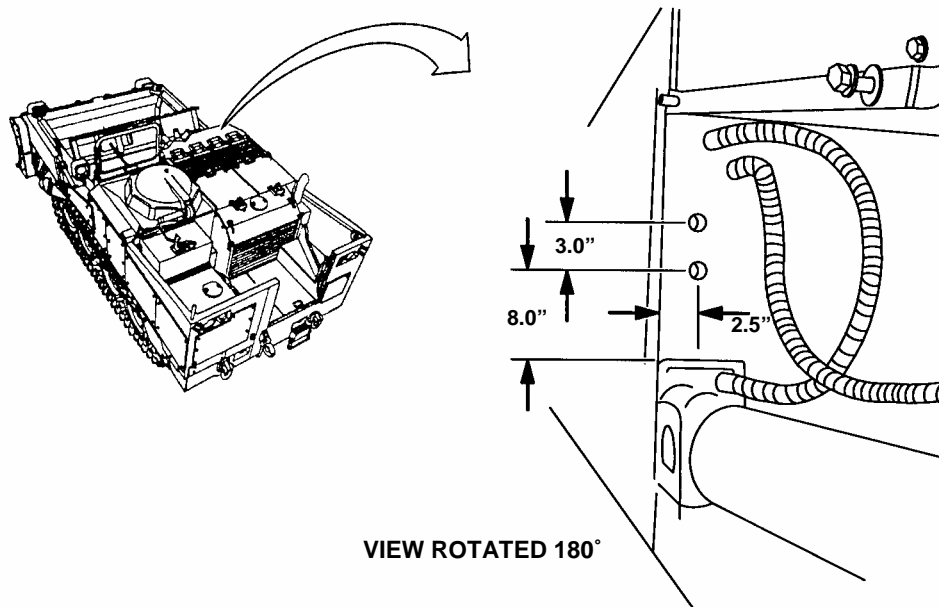

Figure 2-10. Blade Folder Hose Access Holes.
1. Drill two one-inch (25.40 mm) diameter holes (Figure 2-10) through hull above the apron cylinder mounting bracket.
20. Use RTV sealant (Chapter 1, 1-8) or suitable sealant to install trimmed ends of grommets into two holes (Figure 2-10) from both sides.